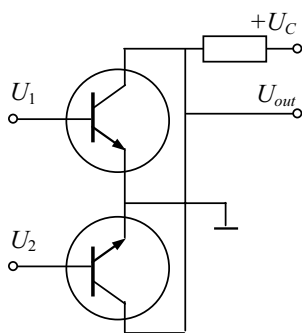

Fig. 2.61
**NOR gate.** The emitter follower is not the only output of the circuit described earlier. The collector output may be used too, if the emitter terminals are grounded as shown in Fig. 2.61. In these circuits, the output signal is inverted regarding to the input. The topology is known as a *NOR gate (OR-NOT circuit)*. This component is a *NOT OR*, or inverted OR gate. Its output is high only when all the inputs are low.